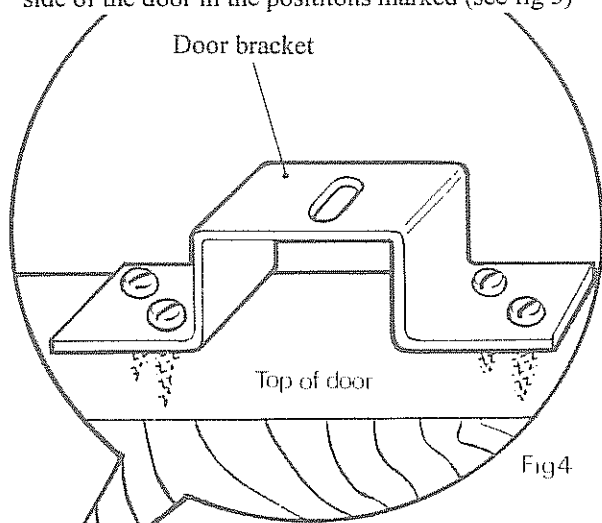
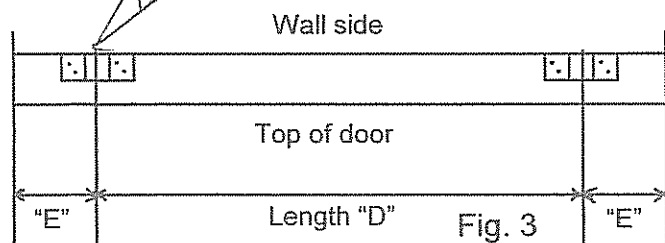
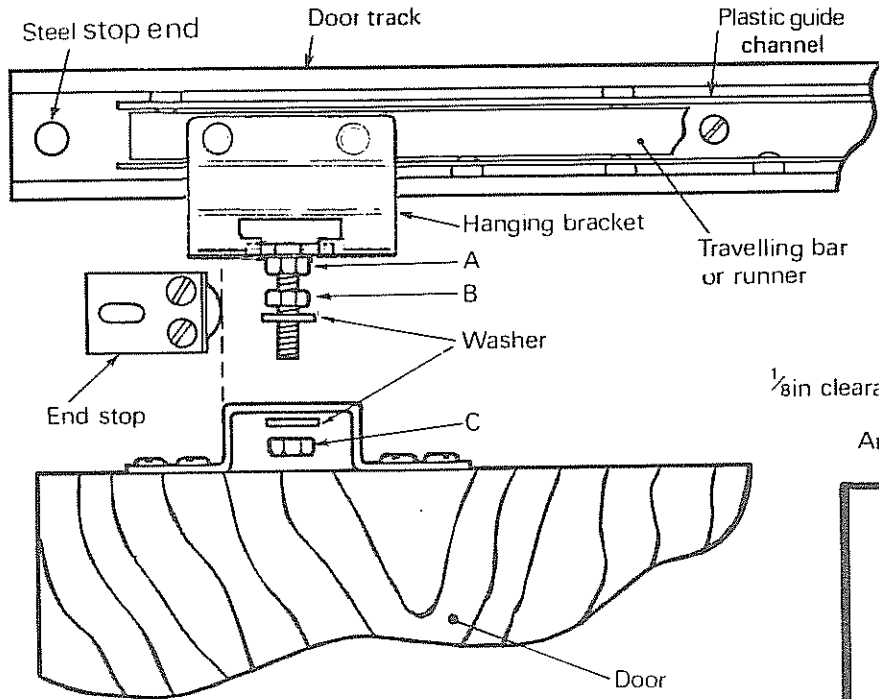
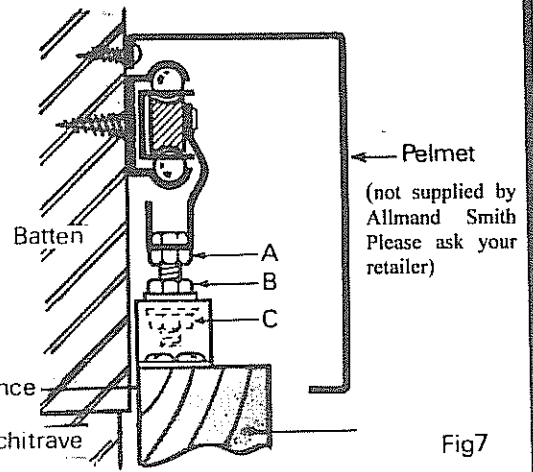

Fig 4
Fig 3
Fig 6
Fig 7
- 3 Find the gold travelling bar which is positioned in the plastic guide channel (see fig 6 overleaf). Measure the distance between the centres of the two steel hanging brackets which are riveted to the gold bar. This is length "D". Make two marks on the top of your door as shown in fig 3, ensuring that the two lengths marked "E" are the same. Then find the two door brackets as shown in fig 4. Fix them to the top of the door flush with the wall side of the door in the positions marked (see fig 3)
5 Insert the bolts in the hanging brackets through the slots in the front of the brackets. Make bolts rigid by tightening nut A to the hanging bracket. Hang the door to the track by supporting the door off the floor with two pieces of 1/4" (6mm) packing. Use nuts B and C to tighten on door bracket (Fig 6) moving the bolt in the slot until the door shows 1/8" (3mm) clearance with the batten (see fig 7).